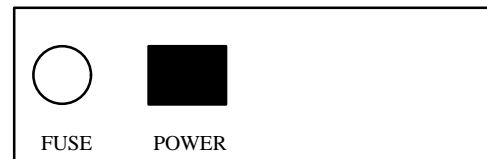

Figure 4
1. Attach the IEC Power cord to the turntable. Make sure that the power switch is in the off position, then plug the unit into a ***GROUND***ED outlet (Figure 4).